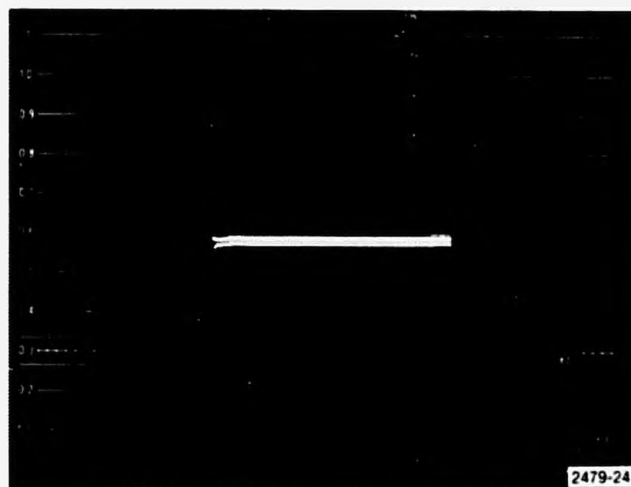

Fig. 2-4. T bar and 2T bars overlaid to compare bar amplitude (factory programmed option, activated by selecting two bars simultaneously).
- While holding in the T BAR pushbutton, push the other BAR pushbuttons one at a time and check that the amplitudes of the other bars are equal to that of the T bar. See Fig. 2-4. (This uses the TSG15 Bar Calibrate Mode, and assumes that the enabling internal jumper is in the factory-set position.)